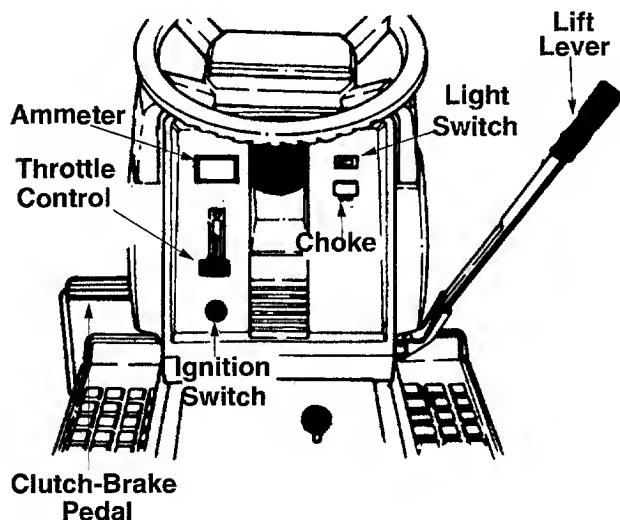

Figure 12
The ignition switch is located on the dashboard. The engine is started by turning the key to the START position. When the engine is running, leave the key in the ON position. To stop the engine, turn the key to the OFF position. See Figure 12.
The throttle control is located on the dashboard and is used to regulate the engine speed. To get maximum efficiency from cutting, the throttle should be in the FAST position when operating the mower. See Figure 12.
The choke control is located on the dashboard and is operated manually. Details for the choke operation are covered in the separate engine manual packed with your unit. See Figure 12.
The head lamps are operated by pushing the light switch located on the dashboard. The head lamps will only operate when the engine is running. See Figure 12.
The ammeter registers the rate of battery charge or discharge. The ammeter will register on the discharging side with starting the engine. It should register on the opposite side (charging) when the engine is running in the fast position until the battery is completely charged. With a fully charged battery or with the engine idling, the ammeter will not show a charge. See Figure 12.
The clutch-brake pedal is located on the left side of the tractor. See Figure 12. Depressing the pedal returns the drive unit to neutral (N) and applies the brake.